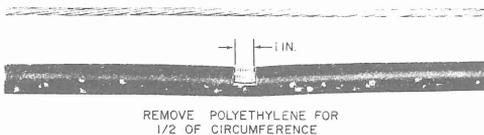

Fig. 40—Portion of Sheath Removed
- (a) Remove a portion of sheath as shown in Fig. 40. Clean corrugated steel shield with B cleaning fluid and wipe with a clean cloth. Aluminum shield does not need cleaning.